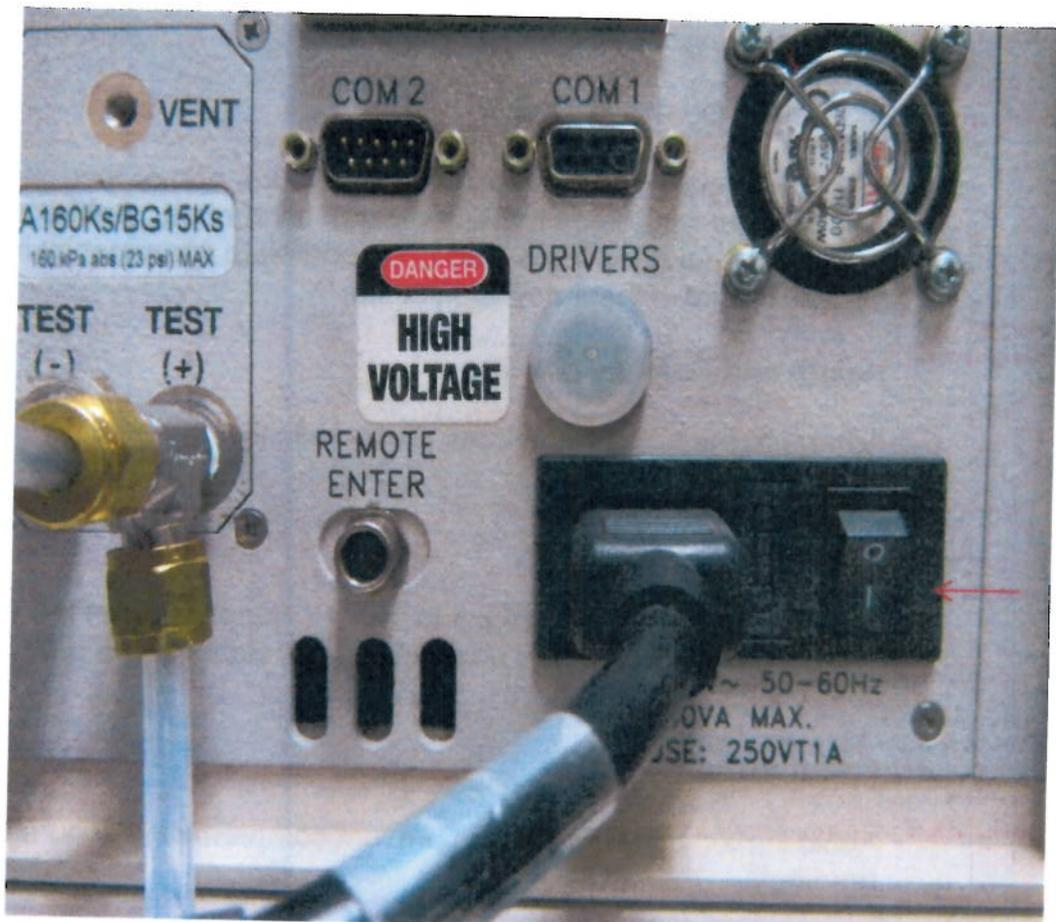

Figure 1
11.1 Power on the PPC3 Pressure Controller/Calibration. See Figure 1.